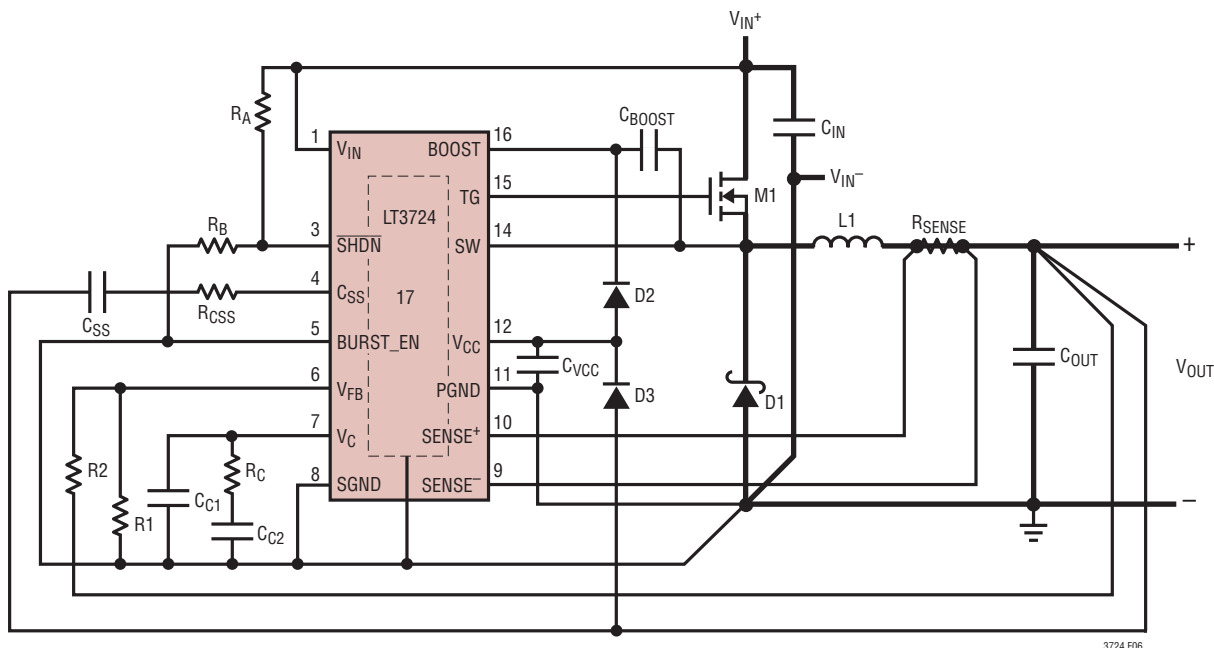

Figure 9. LT3724 Layout Diagram (See PCB Layout Checklist).
When laying out the printed circuit board, the following checklist should be used to ensure proper operation. These items are illustrated graphically in the layout diagram of Figure 9.
5. Locate the  $V_{CC}$  and BOOST capacitors in close proximity to the IC. These capacitors carry the MOSFET driver's high peak currents. Place the small signal components away from high frequency switching nodes (BOOST, SW, and TG). In the layout shown in Figure 9, place all the small signal components on one side of the IC and all the power components on the other. This helps to keep the signal and power grounds separate.